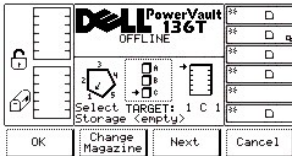

Figure 13. Status > Library > Slot > Change Magazine Dialog
- 1 If the button beneath the **Next** softkey is selected, the current source parameter changes from column to magazine and the Change Magazine Dialog is displayed. Refer to Figure 13.